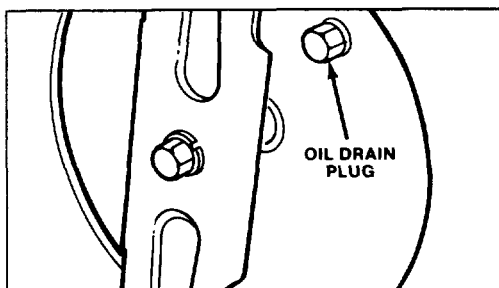

Figure 18
3. Tip mower on its right side. Remove drain plug from underside of mower using an adjustable wrench (Fig. 18). Place a drain pan under mower.